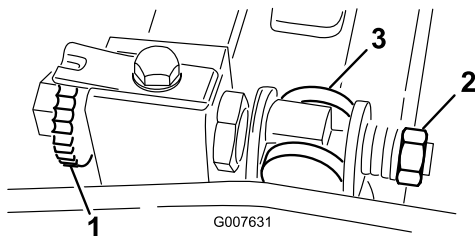

Figure 53
1. Turn bedbar adjuster screw, counterclockwise, to back bedknife away from reel (Figure 53).
2. Back out the spring tension nut, until the washer is no longer tensioned against the bedbar (Figure 53).